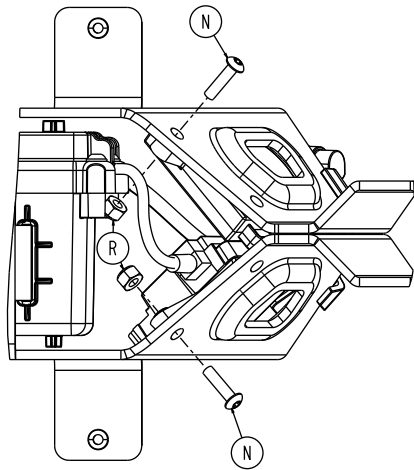

Figure 39 – Remove the wireless module screw and nut
7. Using a T25 Torx driver and a 3/8" combination wrench, remove the button head cap screw (N) and Fiberlock nut (R) that secure the wireless module, if equipped, and the NFMIC module to the cot, if equipped (Figure 39). Save the screw and nut.